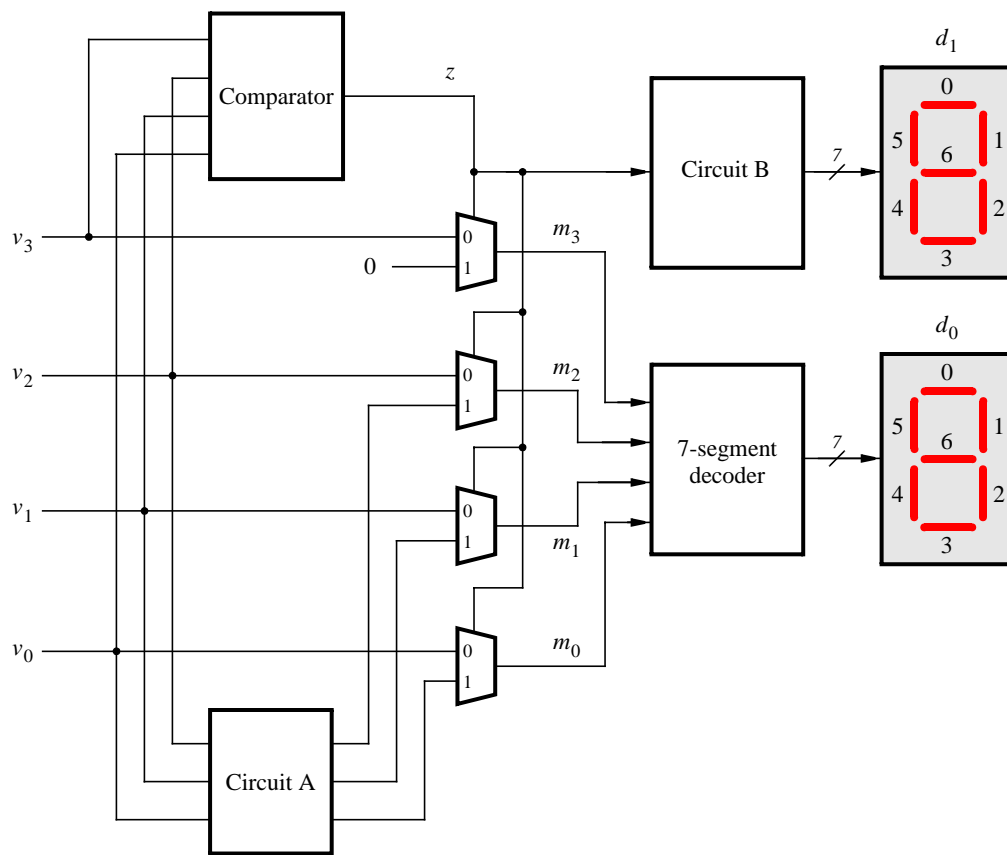

Figure 1. Partial design of the binary-to-decimal conversion circuit.
You are to design a circuit that converts a four-bit binary number  $V = v_3v_2v_1v_0$  into its two-digit decimal equivalent  $D = d_1d_0$ . Table 1 shows the required output values. A partial design of this circuit is given in Figure 1. It includes a comparator that checks when the value of  $V$  is greater than 9, and uses the output of this comparator in the control of the 7-segment displays. You are to complete the design of this circuit by creating a Verilog module which includes the comparator, multiplexers, and circuit *A* (do not include circuit *B* or the 7-segment decoder at this point). Your Verilog module should have the four-bit input  $V$ , the four-bit output  $M$  and the output  $z$ . The intent of this exercise is to use simple Verilog **assign** statements to specify the required logic functions using Boolean expressions. Your Verilog code should not include any **if-else**, **case**, or similar statements.
3. Augment your Verilog code to include circuit B in Figure 1 as well as the 7-segment decoder. Change the inputs and outputs of your code to use switches  $SW_{3-0}$  on the DE2 board to represent the binary number  $V$ , and the displays  $HEX1$  and  $HEX0$  to show the values of decimal digits  $d_1$  and  $d_0$ . Make sure to include in your project the required pin assignments for the DE2 board.